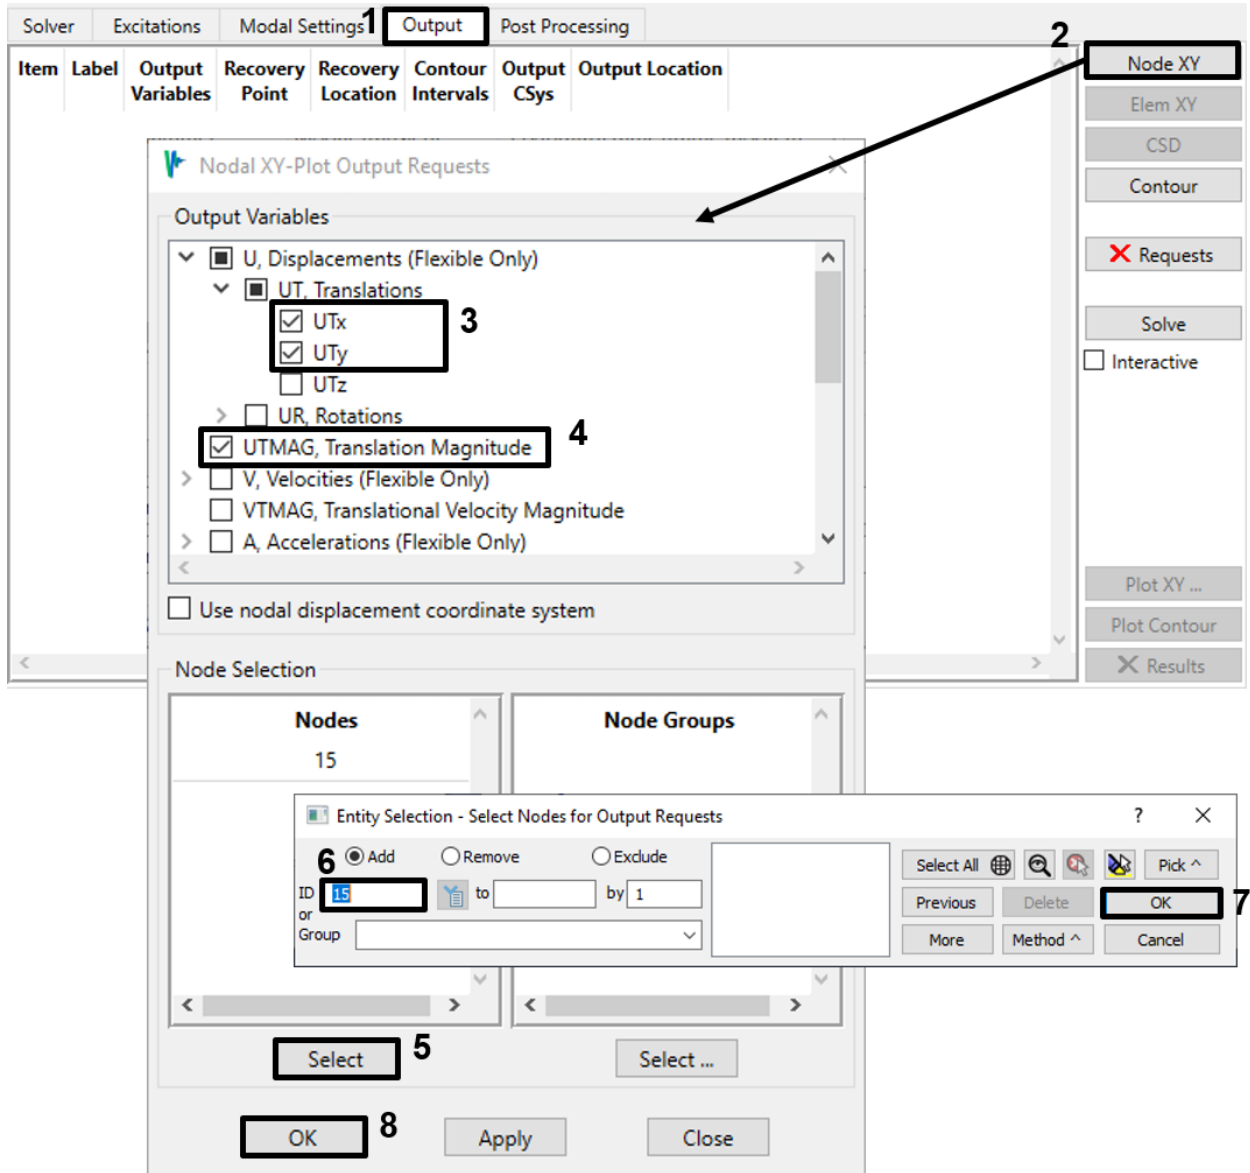

Figure 4-119. Request displacement plots for node 15.
- Go to the *Output* tab. To get a measurement of the structure's movement over time, create Nodal XY Plot output request for X and Y displacements ( $U_{tx}$ ,  $U_{ty}$ ) and displacement magnitude ( $UTMAG$ ) for node 15, as in Figure 4-119.